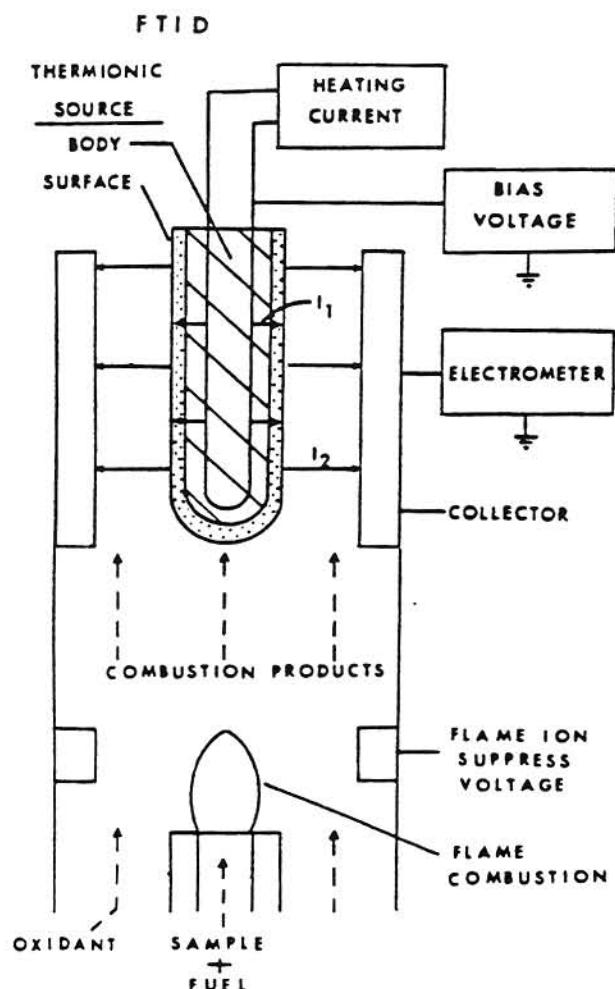

Figure 4. Schematic illustration of the detection configuration for the flame thermionic ionization detector (FTID) mode of response.
Figure 4 depicts a further detection mode in which the thermionic source and collector electrode structure are positioned well downstream of the active region of a self-sustaining flame. The basic concept (6) of this flame thermionic ionization detection (FTID) mode is to burn sample compounds in a self-sustaining H_2 /air flame at a flame jet, and to selectively re-ionize electronegative combustion products by means of the thermionic ionization components located downstream. In the FTID, a large physical separation between the flame and the thermionic source/collector electrode provides minimal collection of ionization produced in the flame, but excellent collection of ionization produced at the heated surface of the thermionic source. An auxiliary ion-suppress voltage can be applied to further prevent ionization produced in the flame from reaching the ionization collector. This mode of detection provides specific responses to compounds containing N or halogen atoms with a specificity of 10^3 and detectivity of 1.0 ng. The precombustion of samples in the flame minimizes interferences from sample matrices and provides more uniform responses independent of the original molecular structure of the sample compound. Both the low work function (TID-1) and moderate work function (TID-2) thermionic sources have been used in this FTID configuration. FTID-1 provides good responses to both nitrogen and halogen compounds, whereas FTID-2 responds best for halogen compounds with suppressed nitrogen response.
This mode of detection is a simple variation of the FTID in which no electrical heating is supplied to the thermionic source, and the ion-suppress voltage depicted in Figure 4 is not applied. In this case, the thermionic source serves merely as a polarizer to drive negative ions in the flame effluent to the TID collector electrode. The ionization sensed in this mode corresponds to long-lived negative ions originally produced in the flame. Because of the large separation between the flame and the TID collector electrode, the bulk of the hydrocarbon ionization produced by the flame is dissipated (i.e., positive-negative ion recombination or neutralization at a wall surface) before reaching the TID collector. However, certain heteroatom compounds appear to combust to negative ion products which are especially stable and long-lived. The outstanding demonstration